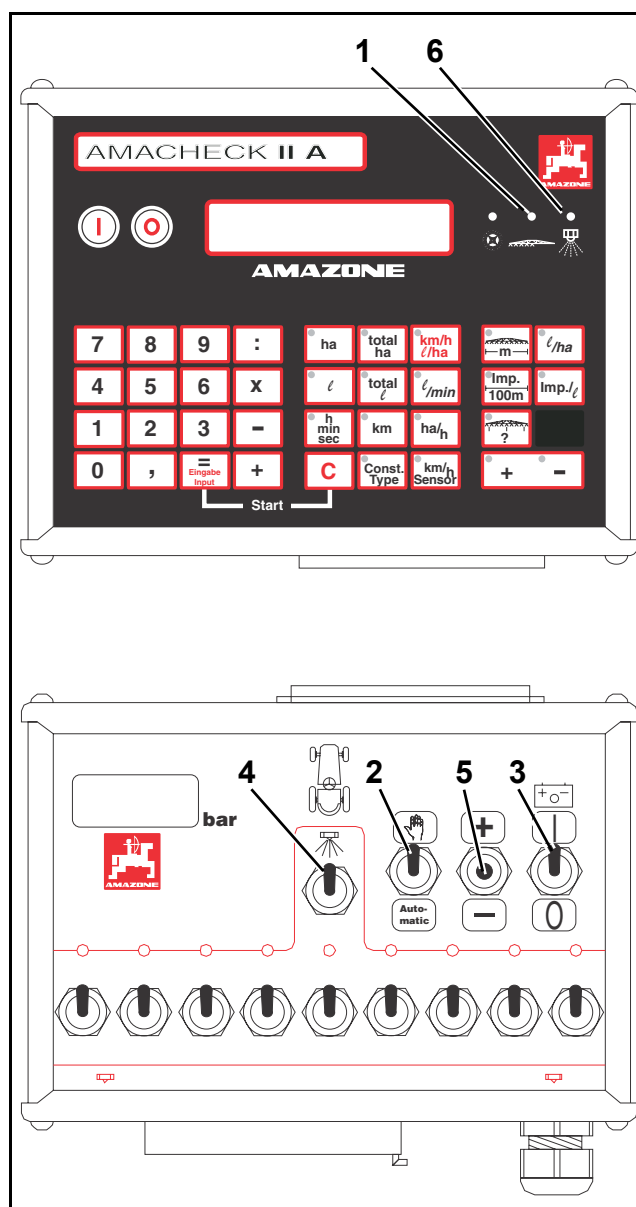

Fig. 38
**When changing the present working width by switching on or off individual boom part width sections the lamp above the boom symbol (Fig. 38/1) lights up. At the same time an automatic information about this working width change is given to "AMACHECK II A". In maximum 12 boom part sections are considered.**
- Set the programme switch (Fig. 38/2) to the position "manual operation".
- On/off switch (Fig. 38/3) for power supply of switch box in position "I" (ON/EIN).
- Switch for the master boom feed control on/off switch (Fig. 38/4) on the switch box in position "0" (OFF/AUS).